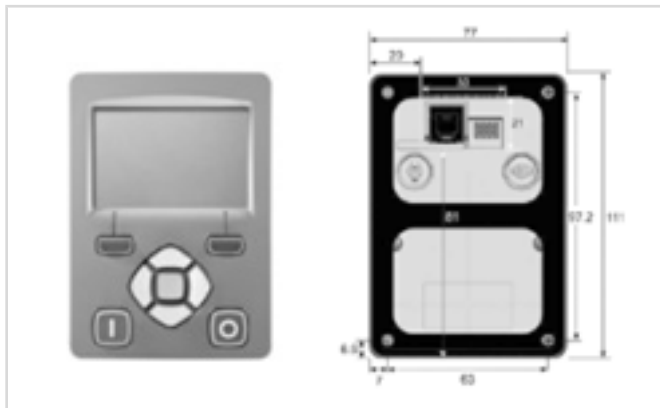

Fig. 20: Front and rear view of the control panel with fixing holes and recess on the back (for external mounting to the switch cabinet)
Mounting (see figure 20, page 66):
- Take the recess on the switch cabinet door for the connections on the back of the control panel into account (see figure 20, page 66)!